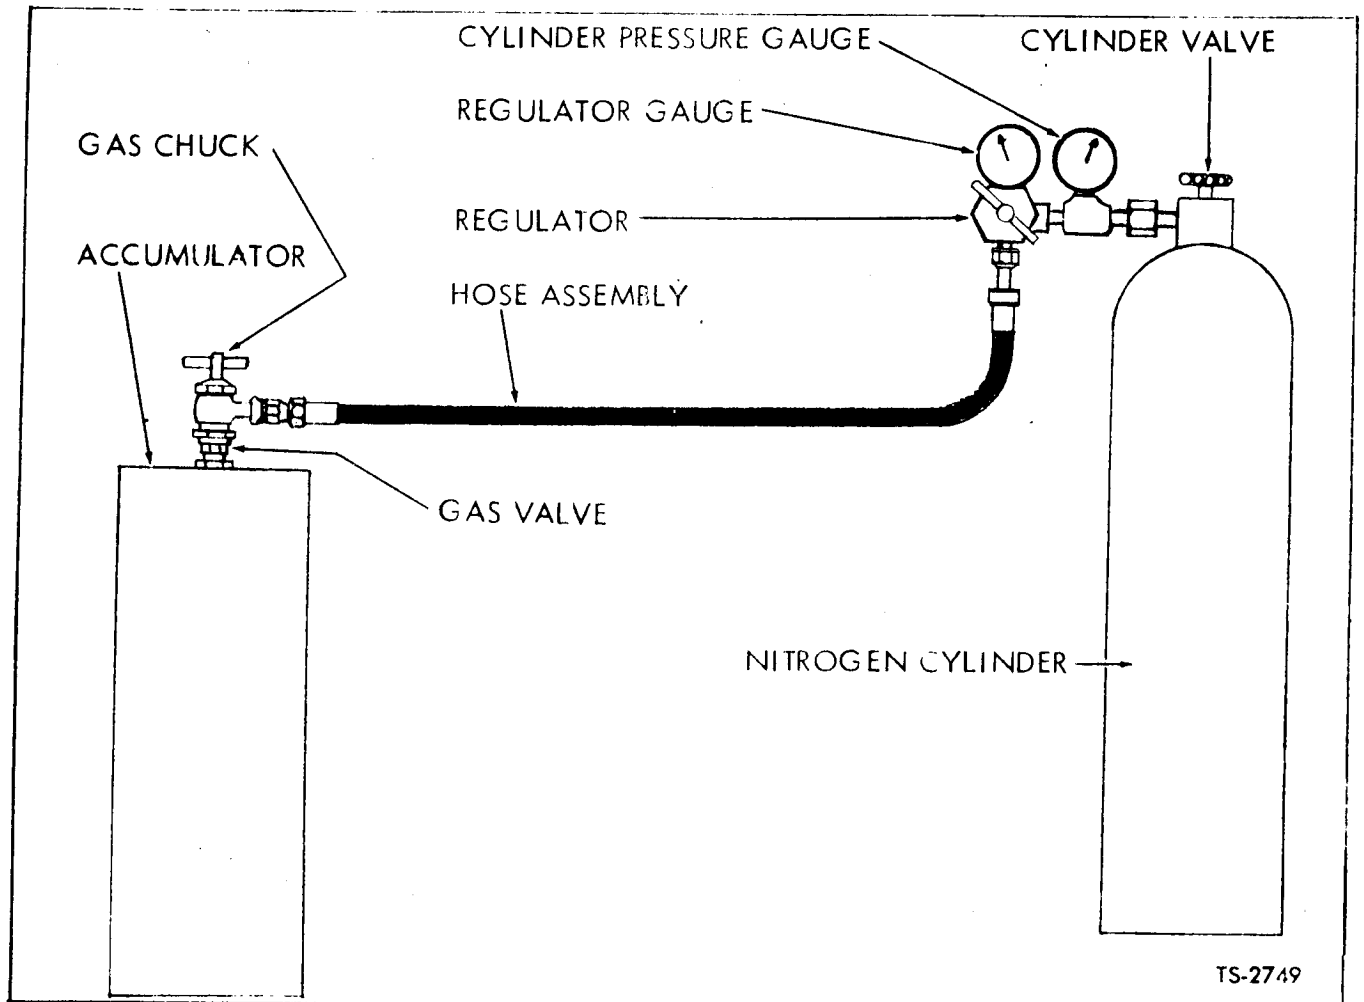

Fig. 23. Accumulator Charging and Checking Device Hook-Up
Precharge Gas Pressure should be 475 PSI plus or minus 25 PSI at ambient temperature of 60°F. Check precharge of accumulator when its temperature is equal to ambient temperature. If there is a noticeable temperature difference, delay pressure check until temperatures are more nearly alike. For each 10°F difference in ambient temperature from 60°F, precharge pressure will rise or fall 6 PSI from 475 PSI specifications given above. If precharge is not within specification given above, proceed with recharging as outlined below. See Figure 23.
3. Attach Charging and Check Device, No. 944283, to nitrogen cylinder and to accumulator, as shown in Figure 23. Use wrench to tighten swivel nuts onto accumulator gas valve and to nitrogen cylinder. Turn T-handle valve on gas chuck all the way in by turning in a clockwise direction to depress valve core in gas valve.